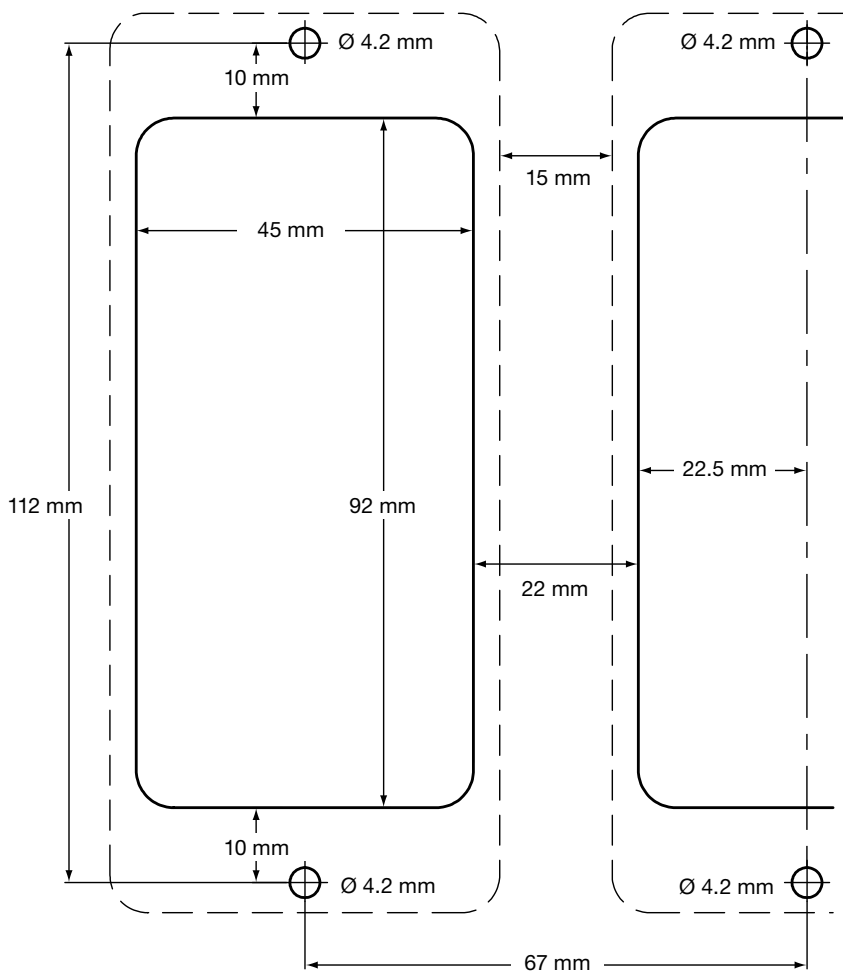

Fig. 3 Chassis plate/panel – cutout diagram
- Drill holes in chassis plate as shown in Figure 3.
- Cut the panel to the dimensions given in Figure 3. Drill the screw holes in the panel in the positions indicated.